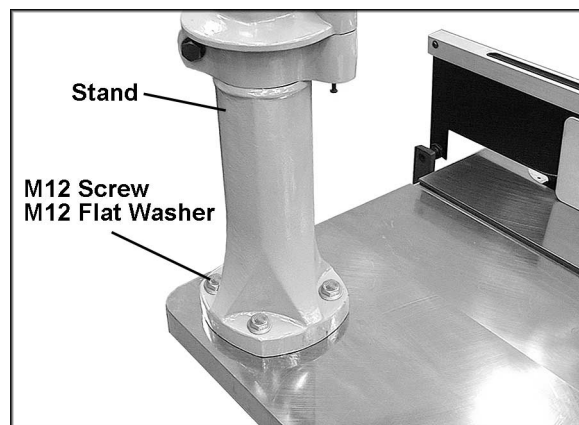

Figure 1
5. Place the stand in position, align the four holes in the stand with the holes in the table, and insert four M12 hex cap screws with four M12 flat washers (not provided). See Figure 1.